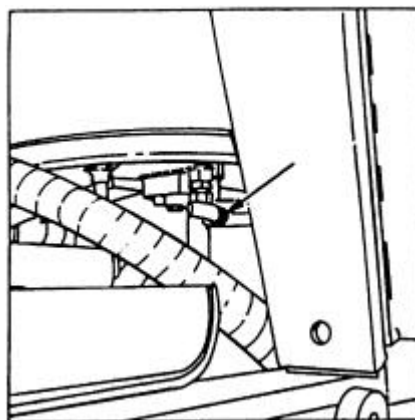

Fig. 5.50. Hydraulic Reservoir Drain Plug
6. Remove the plug from the reservoir drain valve, Fig. 5.50.
7. Fit a short threaded pipe P/N 470-90-1008 into the end of a piece of hose P/N 470-90-1006 (enclosed in accessories). Screw the pipe into drain valve (4). Put the other end of the hose into a container large enough to hold the fluid from the reservoir.